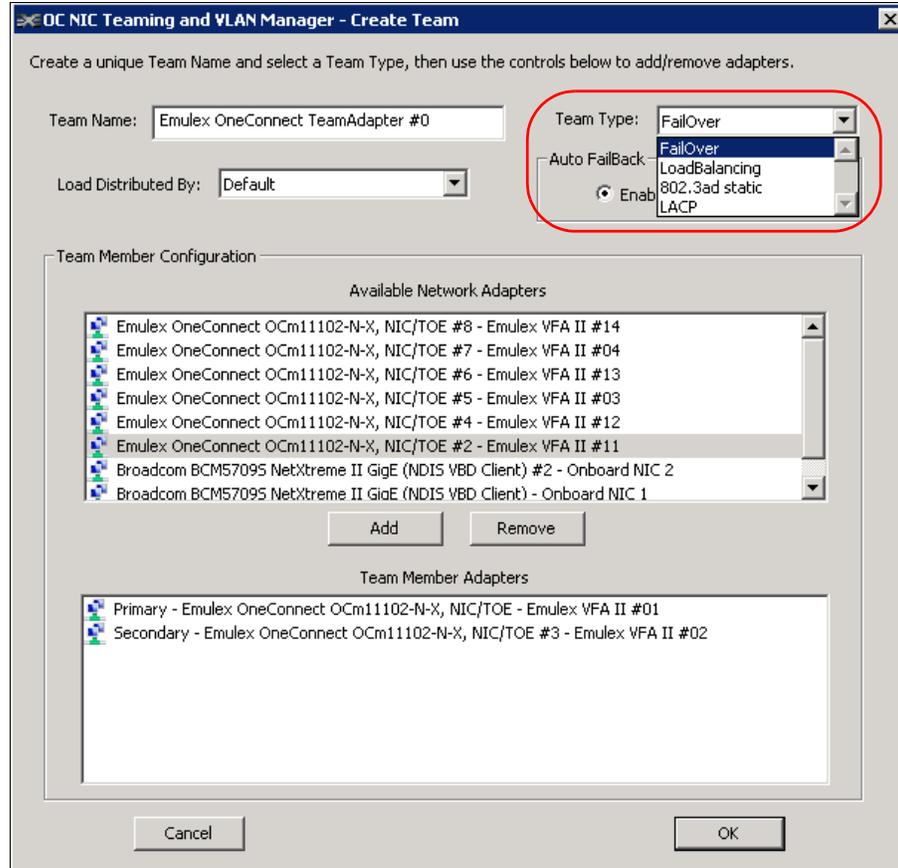

Figure 9-28 Create team window in Emulex OneCommand Manager
2. In the Create team window (Figure 9-28), specify the team parameters: